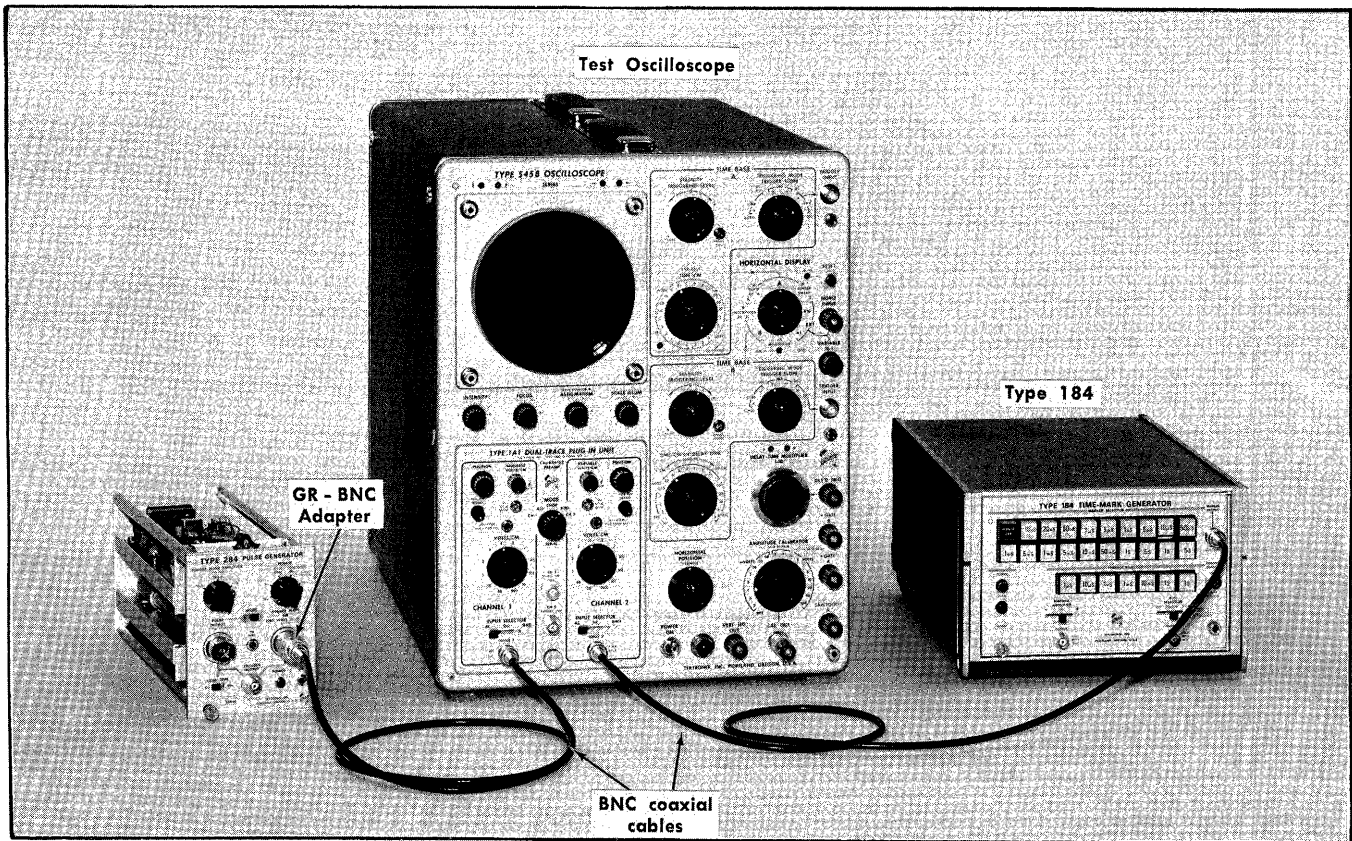

Fig. 6-12. Equipment setup for steps 7 and 8.
a. Use the equipment setup in Fig. 6-12. Connect the Marker Output signal from the Type 184 through a BNC 50  $\Omega$  coaxial cable to the Input 2 connector on the Type